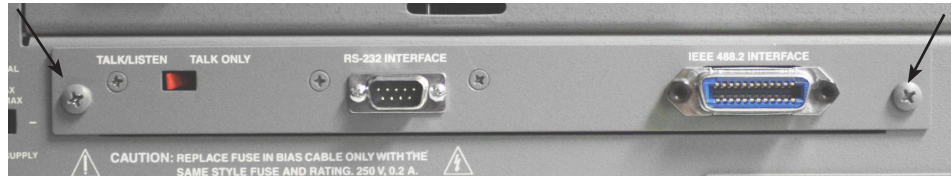

Figure 5-9: Screws holding the interface assembly on the rear panel
2. Place the instrument in the normal position (flat on table or in rack). Looking at the rear panel, remove the two screws that hold the interface from the Digibridge. See Figure 5-9 below.